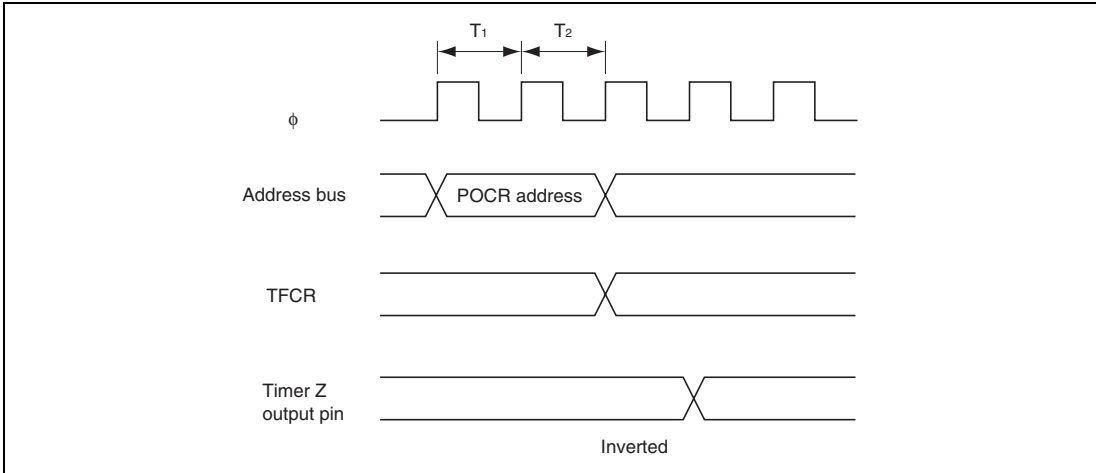

Figure 13.47 Example of Output Inverse Timing of Timer Z by Writing to POCR
- 4. Output Inverse Timing by POCR: The output level can be inverted by inverting the POLD, POLC, and POLB bits in POCR in PWM mode. Figure 13.47 shows the timing.